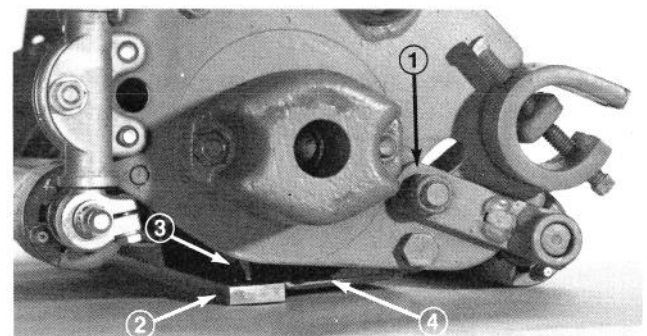

Figure 16
1. Mount rear roller and height-of-cut brackets onto cutting unit. For height-of-cut settings 1/4 inch (6 mm) or below, set one bracket in the side plate to 1/8 inch (3 mm) from bottom of the slot and tighten nut on the capscrew. Leave bracket on the other side mounted loosely (Fig. 16). Above 1/4 inch (6 mm) height-of-cut, center bracket in slot and tighten nut.
2. Place a 1/4 inch (6 mm) or thicker plate under the reel blades and against the cutting edge of the bedknife (Fig. 16).